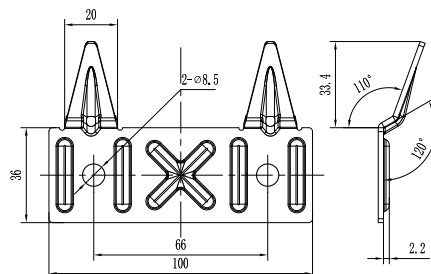

Figure 3
- After choosing the mounting location, make two holes of the required depth in the wall and insert the screws, turn the hook upwards, tighten the nuts securely, and then mount the water heater (see Figure 3).